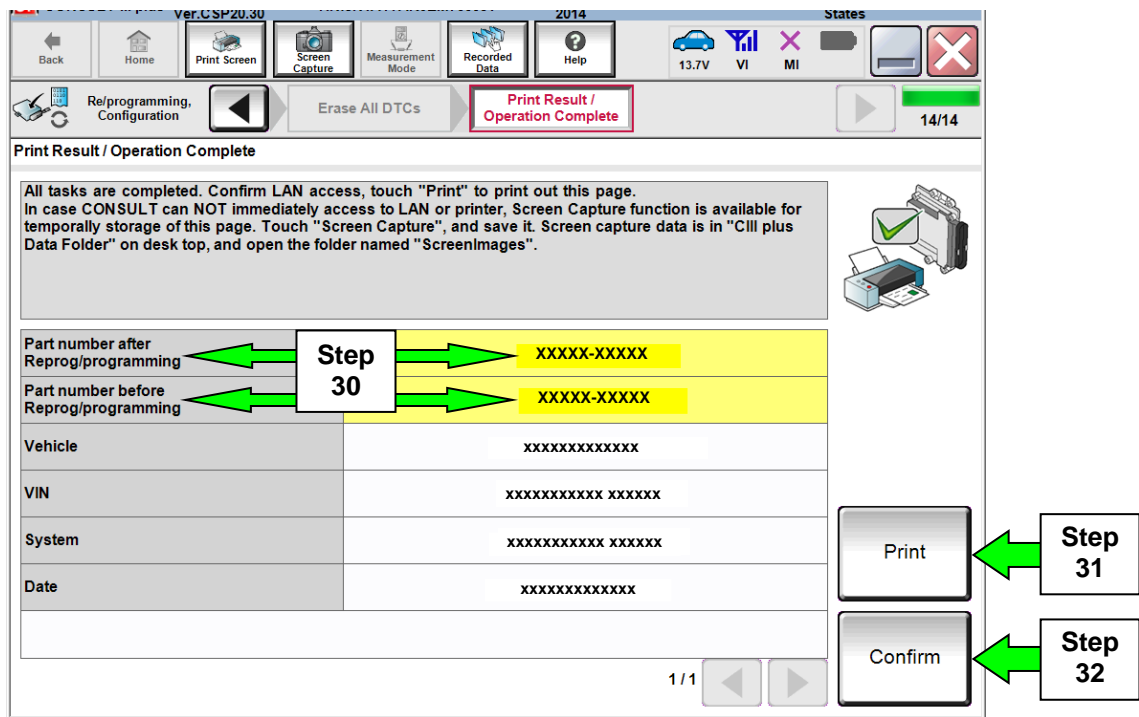

Figure 14
29. When the entire reprogramming process is complete, the screen in Figure 14 will display.
31. Print a copy of this screen (Figure 14) and attach it to the repair order for warranty documentation.